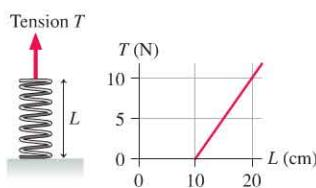

FIGURE Q8.10
- A spring is attached to the floor and pulled straight up by a string. The string's tension is measured. The graph in Figure Q8.10 shows the tension in the spring as a function of the spring's length L .